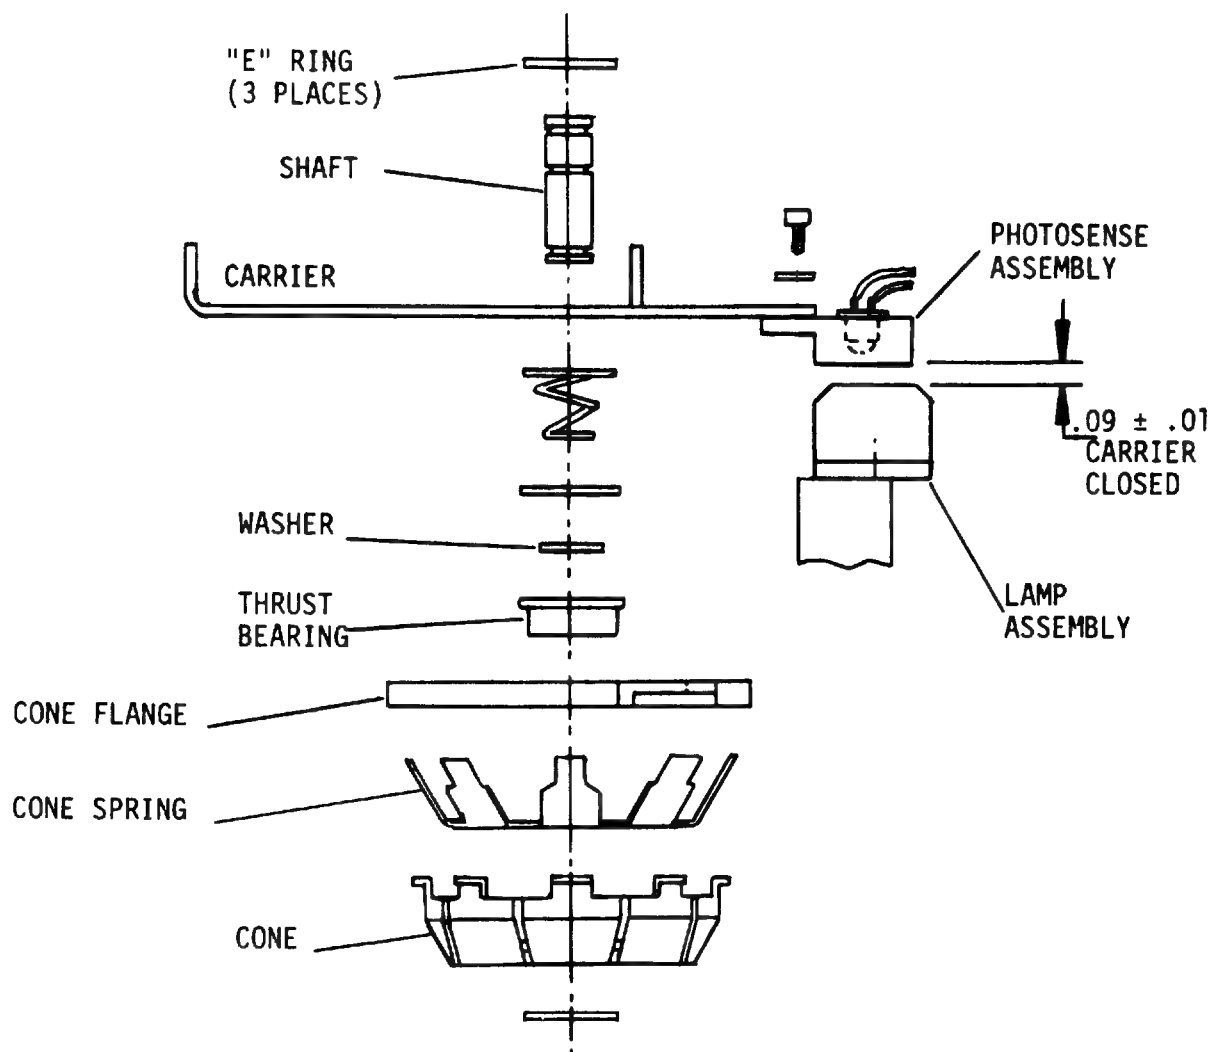

Figure 2-4. Index Transducer and Cone Assembly
- c. Remove E ring holding the cone assembly to the carrier. (Figure 2-4.)